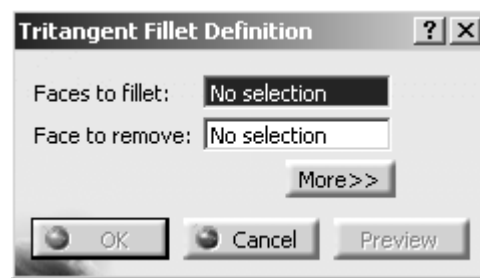

Figure 2.4
- 2.10 Selecting the **Tritangent Fillet** tool will bring up the **Tritangent Fillet Definition** window (Figure 2.4). The first box is the **Faces To Fillet** box. This box allows you to select two faces to be joined with a fillet. The second box is **Face To Remove** box. This box allows you to select the face that will be removed and replaced with the fillet.